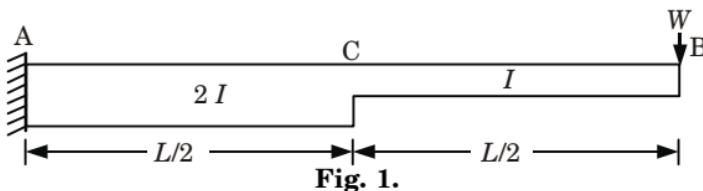

Fig. 1.
- d. Find the slope and deflection at the free end of a cantilever shown in Fig. 1 by moment area method. Moment area of  $AC$  is twice the inertia of  $BC$ .